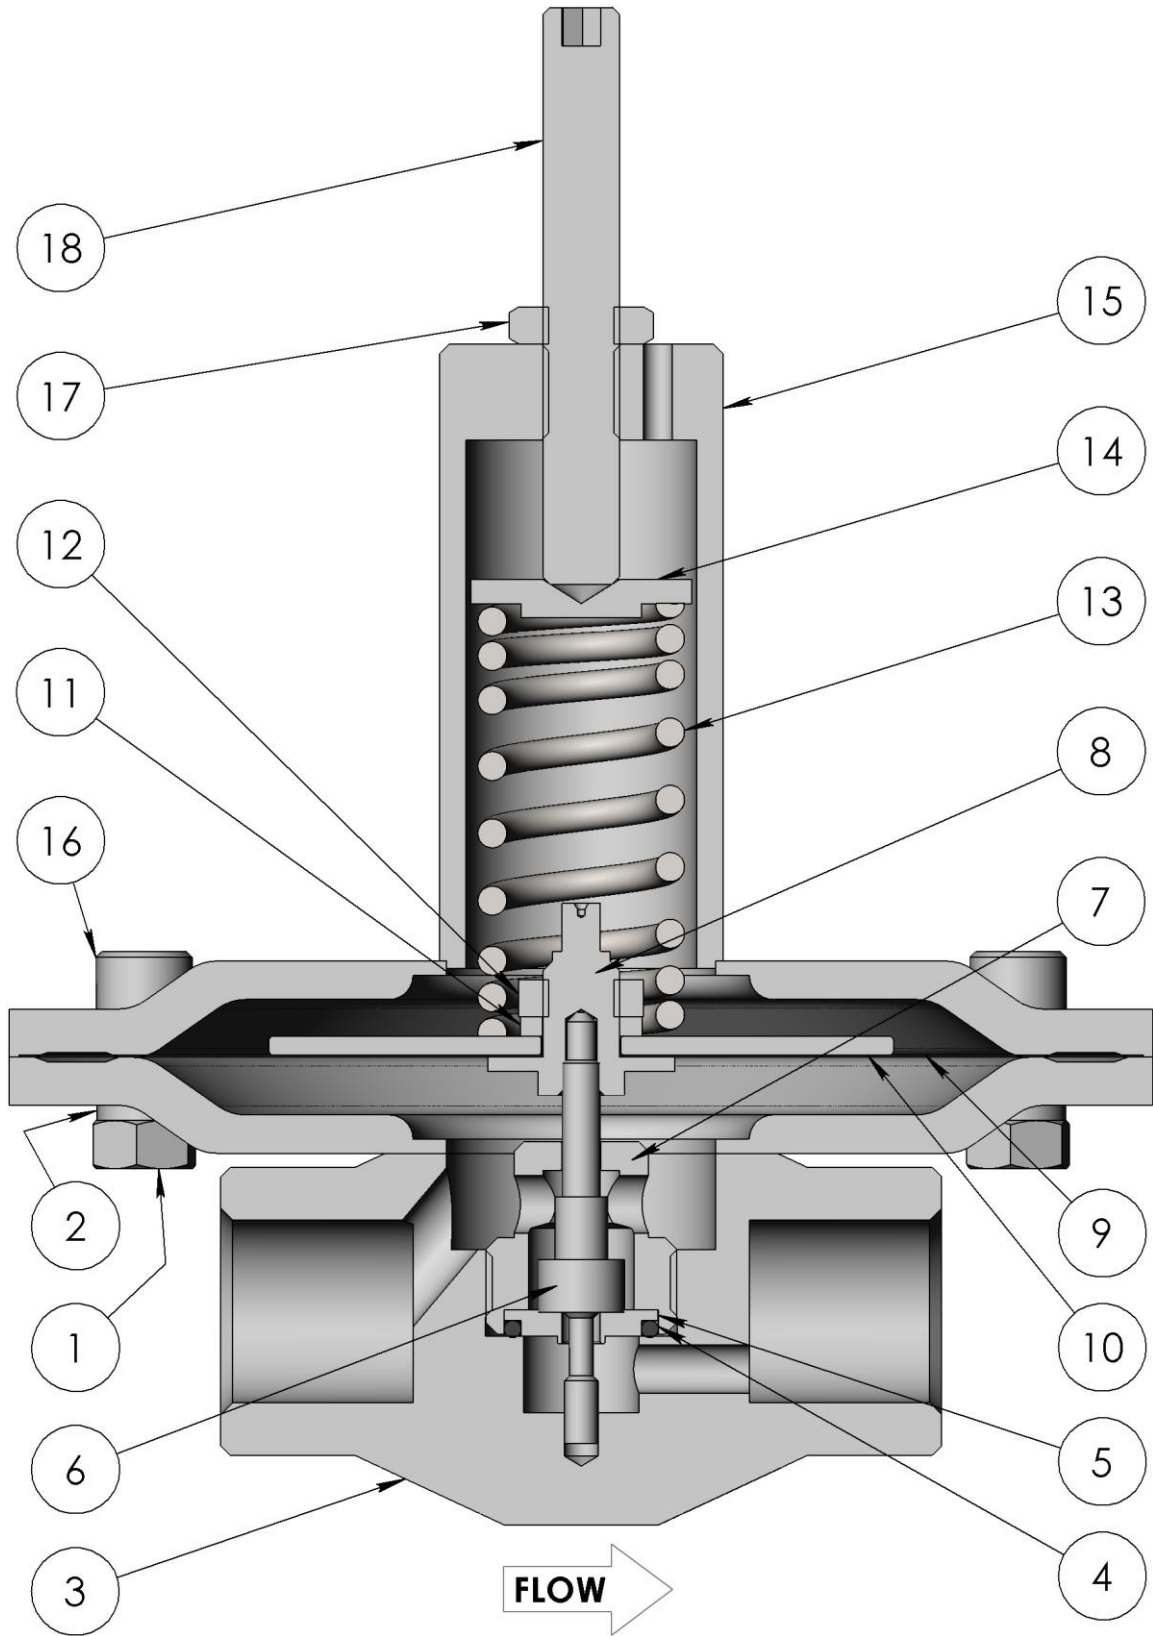

Fig 2
- The preferred mounting position of the regulator is horizontal with the spring housing facing upwards per Fig 2. Alternative mounting positions may increase the risk of component wear.
1. Lightly lubricate the central hole of the seat retainer (7).
2. Insert the poppet (6) through the seat retainer (7).
3. Lightly lubricate the poppet thread (6), then fit the clamp ring (8). Torque to 3.5 lbf·ft (5 N·m).
4. Fit the seat (5) and seat seal (4) over the poppet (6) and into the seat retainer (7). Ensure they are oriented correctly per Fig 2.
5. Lightly lubricate the seat retainer thread (7) then install into the body (3).
6. Secure the body (3) in a vise.
7. Torque the seat retainer (7) to 7 lbf·ft (10 N·m).
8. Place the diaphragm (9) then diaphragm plate (10) on to the clamp ring (8).
9. Lightly lubricate the clamp ring thread (8) then retain using the lock washer (11) and nut (12). Torque to 3.5 lbf·ft (5 N·m).
10. Lubricate the central recess of the spring guide (14).
11. Stack the set spring (13) and spring guide (14) onto the diaphragm plate (10).
12. Place the spring housing assembly (15) over the spring (13).
13. Lightly lubricate the cap screws (16). Secure the spring housing assembly (15) to the body (3) using the cap screws (16), washers (2), and nuts (1). Torque to 7 lbf·ft (10 N·m).
14. Lightly lubricate the set screw (18) thread. Fit the nut (17) onto the set screw (18) and install it into the top of the spring housing assembly (15).